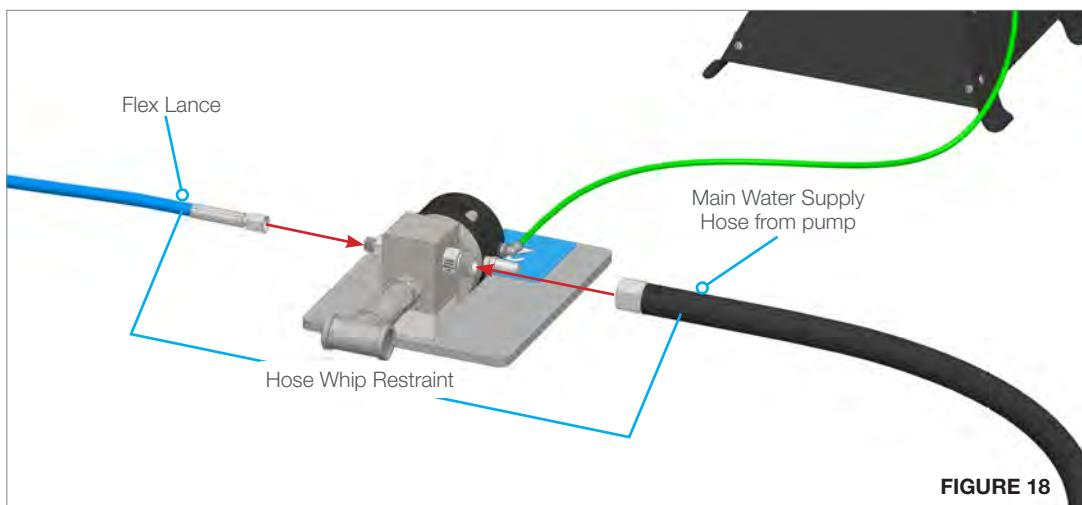

FIGURE 18
28. Fasten the Main Water Supply and Flex Lance Hoses. Be sure to use the appropriate anti-seize, thread lubricant, and/or pipe tape as recommended in the StoneAge Tool Fittings and Accessories Catalog. (**Figure 18**)